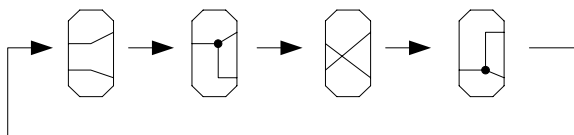

Figure 3-22
- (1) Click the specified network by mouse, 4 switches are shown as Figure 3-22.